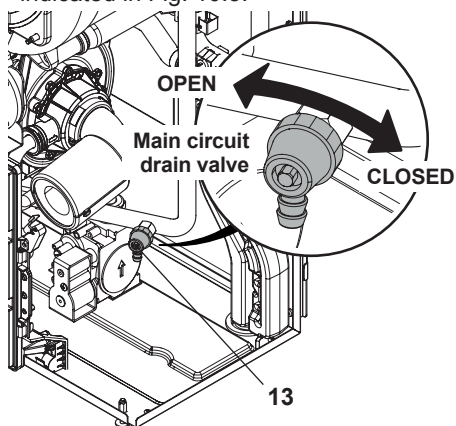

Fig. 10.5
- Loosen the central heating drain cock 13 indicated in Fig. 10.5.